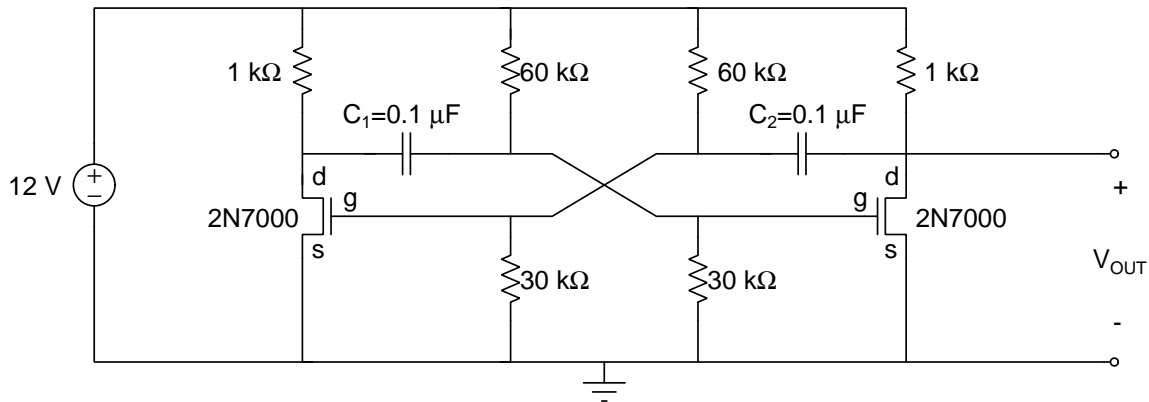
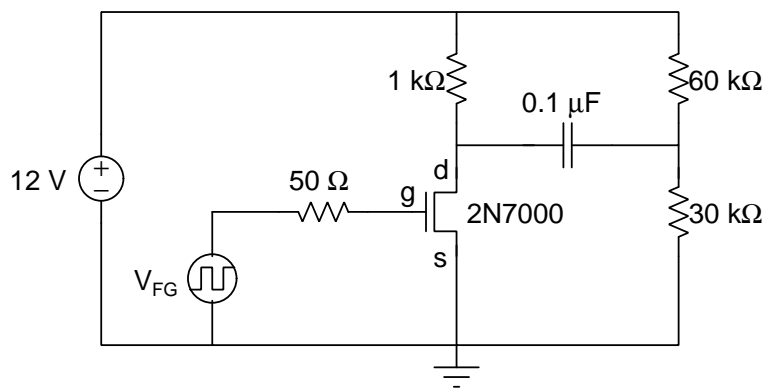

Figure 2: Astable multivibrator circuit of Figure 1 with 2N7000 transistors used as voltage-controlled switches.
Figure 3: Multivibrator half-circuit.
Simulate the operation of the astable multivibrator circuit using the 2N7000 NMOS transistors to implement the voltage-controlled switches, as shown in **Figure 2**. In NGspice, use the **2N7000\_mod** symbol for the transistor model.
1. Build the multivibrator half-circuit shown in Figure 3.
2. Set the function generator (FG) to produce a triangular waveform with a voltage swing from 0 to 5 volts, and a frequency equal to that found in step 5 of the Pre-Lab. Use the scope to record the voltage at both the gate (G) and drain (D) of the 2N7000 transistor. By examining when these two voltage traces cross, determine the gate voltage that causes the transistor to switch between the on-state and the off-state. Expand the time and voltage scales on the scope to maximize the accuracy of the measurement. Try and measure this gate voltage within  $\pm 50$  mV. This gate voltage will be called  $V_{T0}$ . Acquire at least two 2N7000 transistors that have nearly the same  $V_{T0}$  voltage.
3. Build the full astable multivibrator circuit shown in Figure 2. This circuit should oscillate when power is supplied.